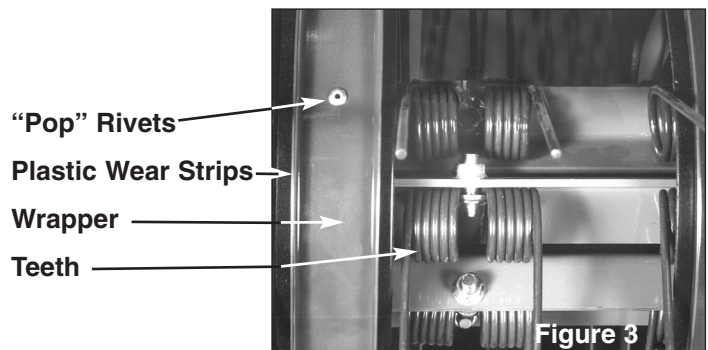

Figure 3
2. Should the plastic wear strip require removal and replacement, drill out or carefully grind off the "pop" rivets. Replace strip with new rivets(fig.3).